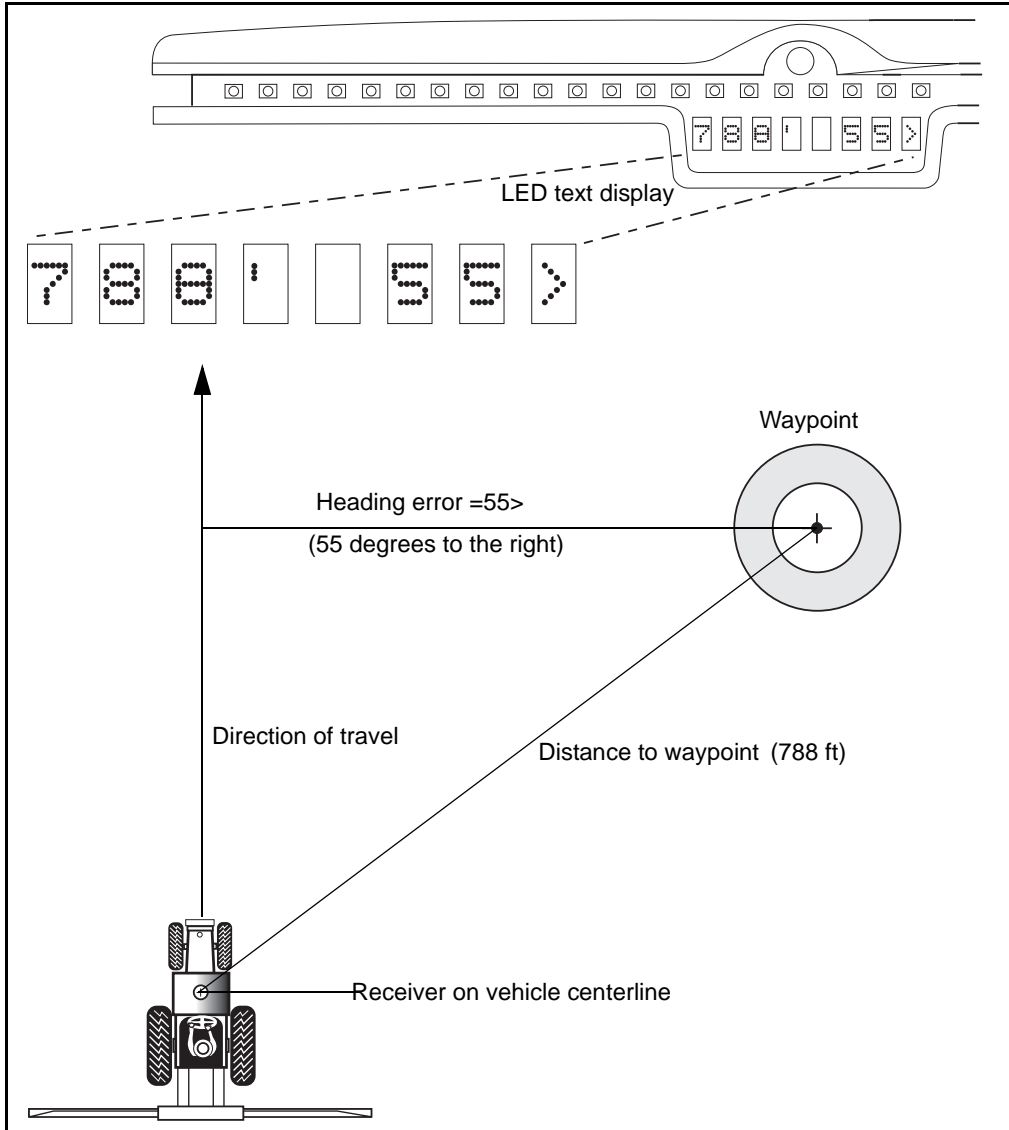

Figure 5.5 Steering to a waypoint
A waypoint is a marked location that is stored as GPS position. When you create a waypoint, give it a meaningful name so that you can later select it and navigate back to it. Figure 5.5 on page 102 shows how to navigate to a waypoint.
4. Press **←** to navigate to the waypoint. The message *Guiding to Wpt* appears. For more information, see Figure 5.5.
Figure 5.5 illustrates how to steer to a waypoint.